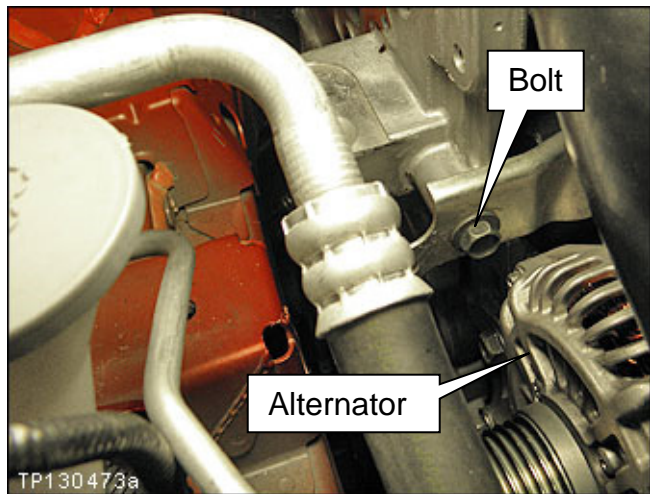

Figure 56
74. Reinstall the bolt shown in Figure 56.